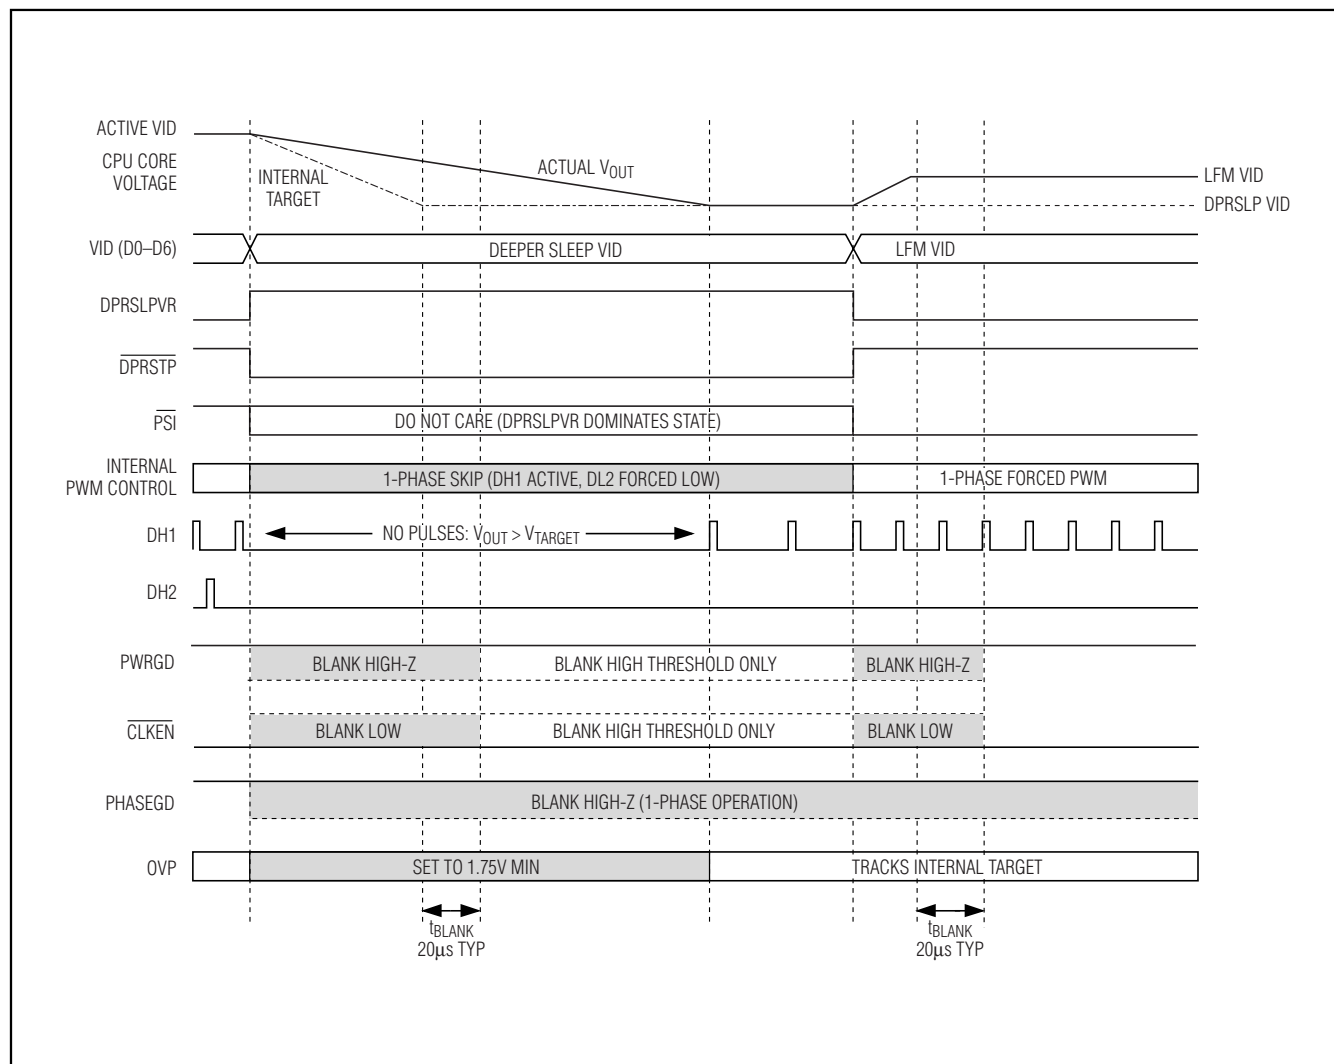

Figure 6. Slow C4 Transition
- Slow C4 Deeper Sleep Exit:** When exiting deeper sleep (DPRSLPVR high, \overline{DPRSTP} pulled high) while the output voltage is regulating to the deeper sleep voltage, the MAX8770/MAX8771/MAX8772 remain in 1-phase skip mode and ramp the output voltage to the LFM DAC code provided by the processor at 1/4 the slew rate set by R_{TIME} . The controller blanks PWRGD, PHASEGD, and \overline{CLKEN} (forced high impedance) until $20\mu s$ after the transition is completed. See Figure 6.